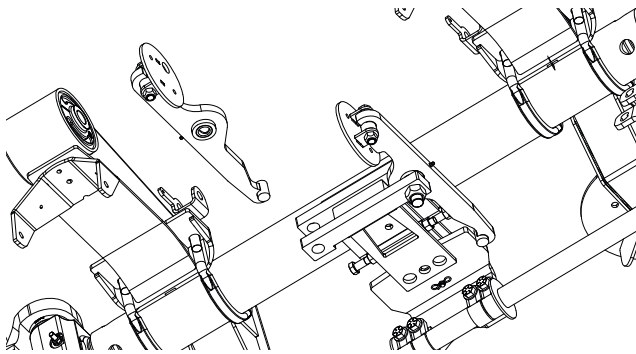

Figure 9: Lock-straight arm assembly removal
6. **Remove** both lock-straight arm assemblies (Figure 9).